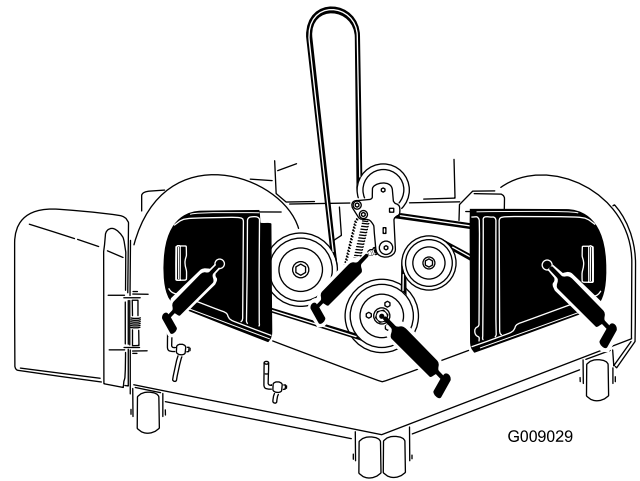

Figure 46
4. Grease the mower deck idler pulley pivot until grease come out the bottom (Figure 46).
5. Grease the 3 spindle bearings until grease come out the lower seals (Figure 46).